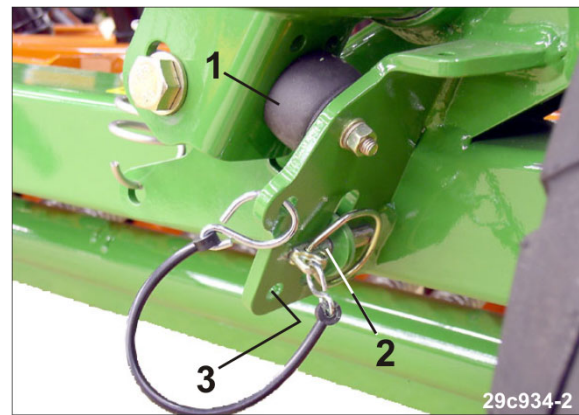

Fig. 166
- 3.1 Press the track marker boom against the rubber block (Fig. 166/1).
- 3.2 Hold onto the track marker tightly, pull out the linch pin (Fig. 166/2) and insert in parking position in the hole (Fig. 166/3).